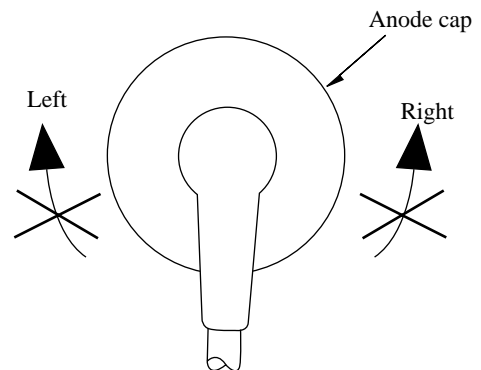

Fig. 3-1
- (1) If the anode cap is turned after it is installed, it may come off. Therefore, arrange the high-voltage cable before attaching the anode cap. (See Fig. 3-1)
- (2) If you have attached the anode cap before arranging the high-voltage cable, arrange the cable carefully so the cap does not turn.